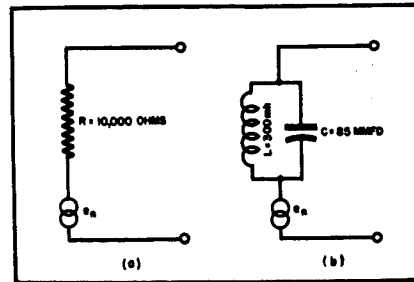

Figure 2
Thermal agitation noise voltage may be calculated easily with equation (2) but by using the graph shown in Figure 2 the room temperature values may be found directly.